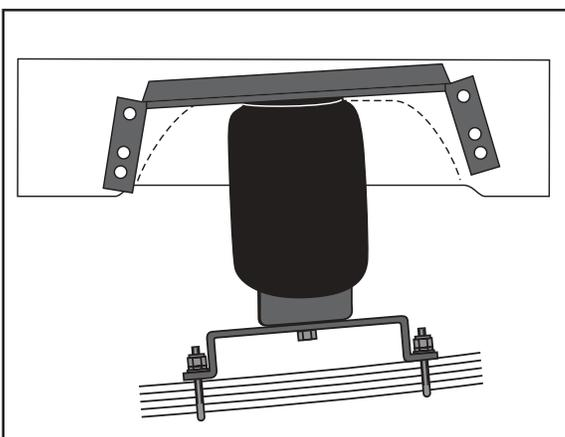

Figure 4
7. Using the slot in the lower bracket, push the upper bracket against the frame rail. Use the Pal nuts on the threaded portion of the installation tool to adjust the upper bracket so that the flanges of the upper bracket are flat against the frame rail and at least four mounting holes are on the flat middle section of the frame rail. **Do not drill any holes on the upper or lower radiused edge of the frame rail.** You must also allow at least 1.5" above the upper bracket for air fitting clearance. The brackets can be mounted anywhere within the threaded range of the installation tool (Figure 4).
NOTE: The frame has an indented area directly over the axle. Normally the upper bracket will span this indented area. If the flange of the upper bracket falls onto or just inside the radiused edges of the indent, it is ok, drill and fasten tight to that rounded surface (Figure 4).